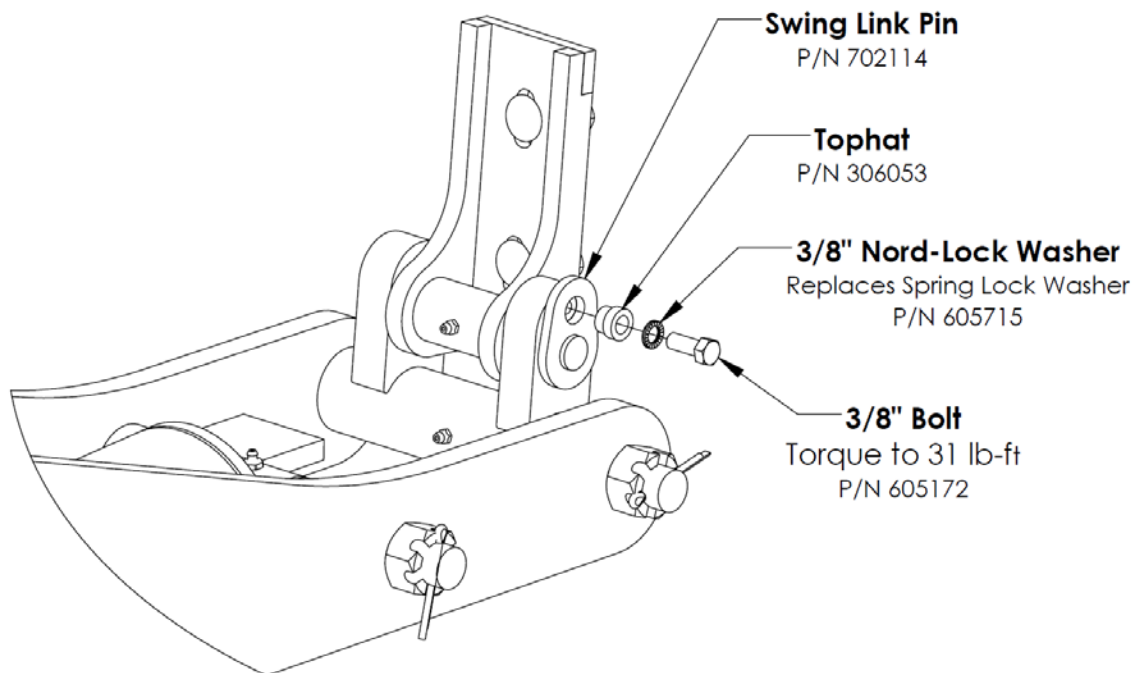

Figure 2. RW-1019B Front Pin Lock Washer Replacement – GM & International
2. Remove the 3/8" bolts retaining the swing link pins on both sides of the vehicle (**FIGURE 2**).